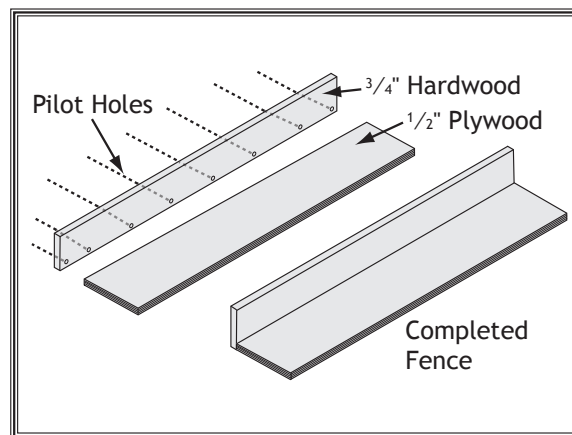

Figure 76. Location of pilot holes.
2. Pre-drill and countersink eight pilot holes $\frac{3}{8}$ " from the bottom of the 3" wide board, then secure the boards together with (8) #8 x $1\frac{1}{2}$ " wood screws, as shown in **Figure 76**.